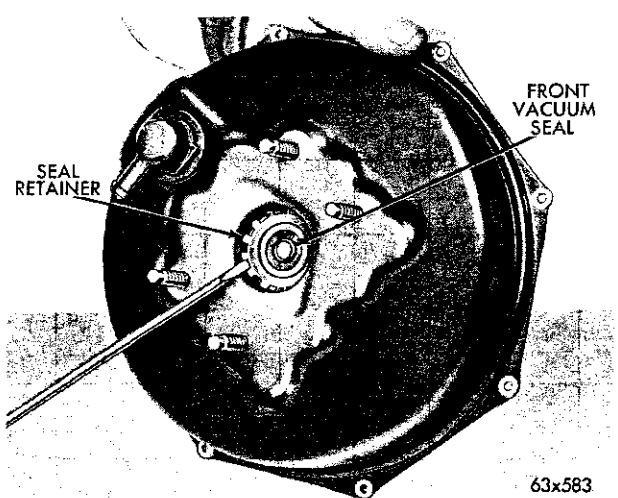

Fig. 23—Removing Front Seal and Retainer
(14) Using a thin screw driver, pry out the front seal retainer and remove the front seal (Fig. 23).
(15) Thoroughly clean all parts with mineral spirits or alcohol. Recondition or replace as necessary.